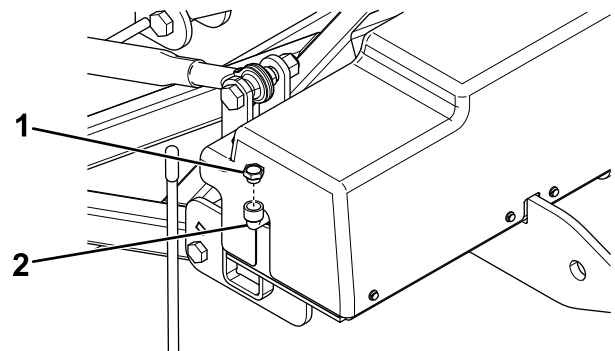

Figure 26
2. Clean the area around the fill cap (Figure 26).
3. Remove the fill cap from the hydraulic reservoir (Figure 26).